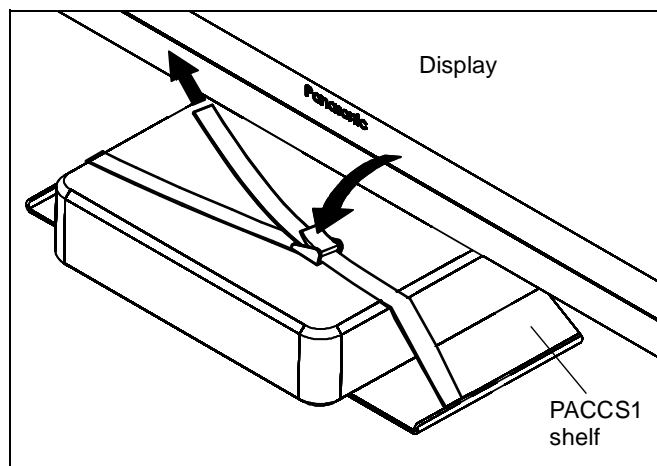

Figure 9
1. If necessary, place rubber bumpers (G) or hook and loop squares (J) on shelf to help hold equipment in place.
3. **OPTIONAL:** Thread optional strap (PAC103) through slots in shelf. (See Figure 9)